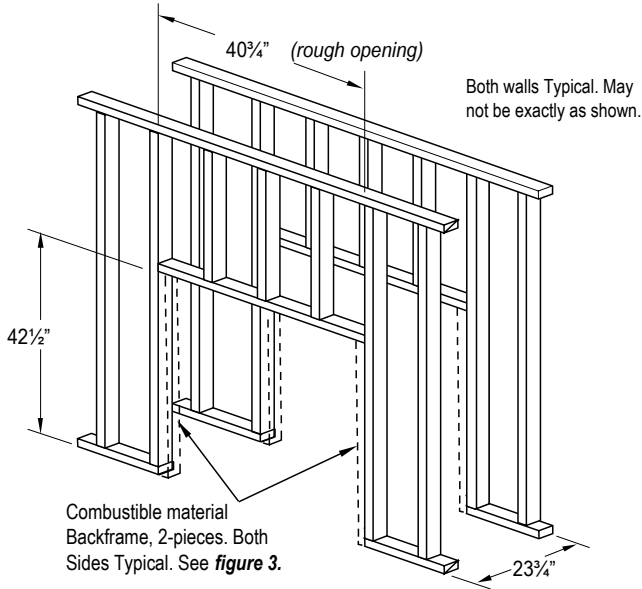

Figure 2. Framing dimensions, (Both Sides Typical).
1). Frame in the enclosure for the unit with framing materials. The framed opening for the assembled fireplace is 40³/₄" wide, x 42¹/₂" high x 23³/₄" deep, see **Figure 2**.